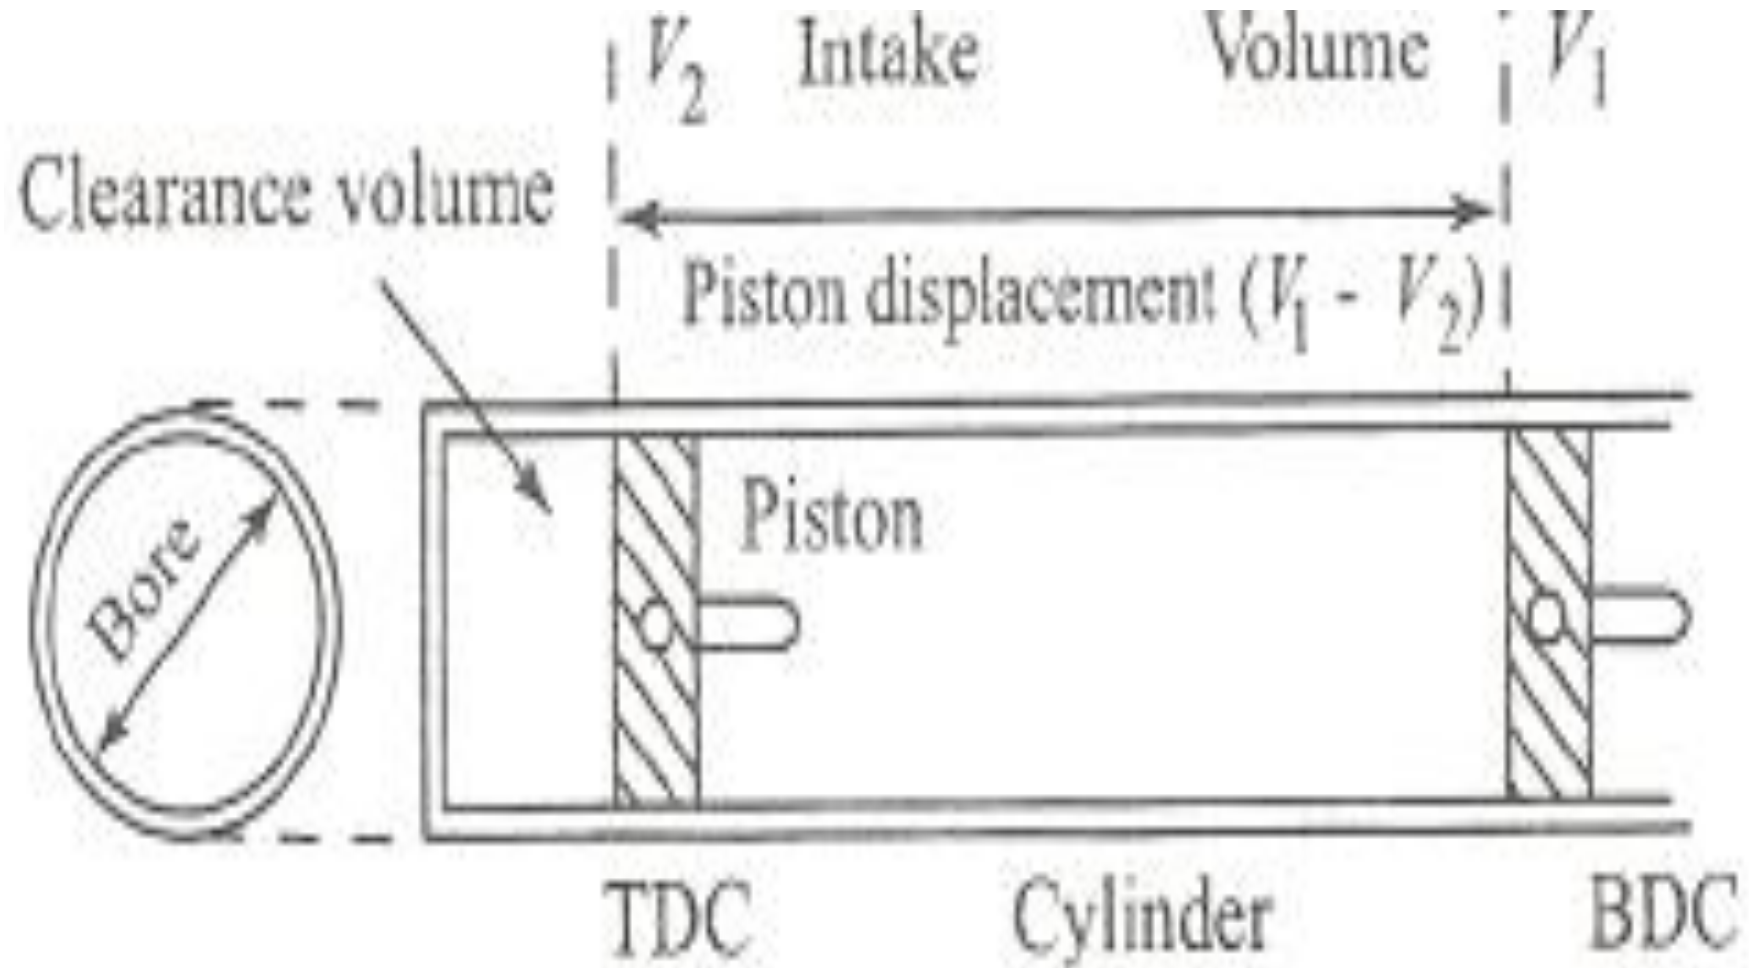

Figure3 : Engine Terminology
- **Figure 3**, shows the pressure volume diagram of ideal engine cycle along with engine terminology as follows:
- Some source call this point **TOP Center (TC)**.
- Some sources call this **Crank End Dead Center (CEDC)** because it is not always at the bottom of the engine. Some source call this point **Bottom Center (BC)**.